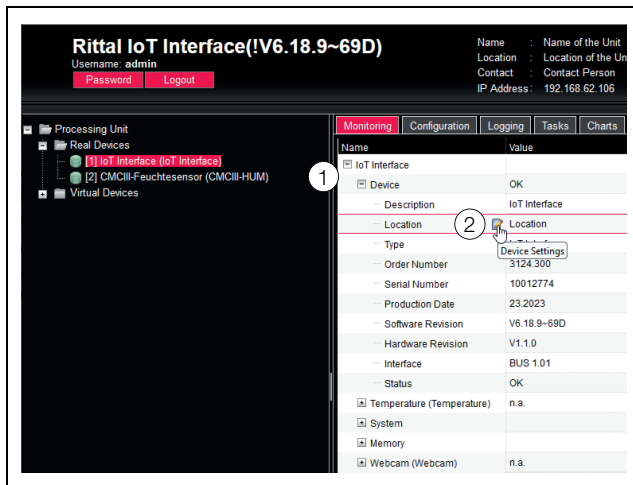

Fig. 24: Selection of a single parameter
- Expand successively the "IoT interface" and "Device" entries by clicking the "plus" character in front of the entry (fig. 24, item 1).
- Place the mouse cursor at the end of the first column in the "Location" row (fig. 24, item 2).